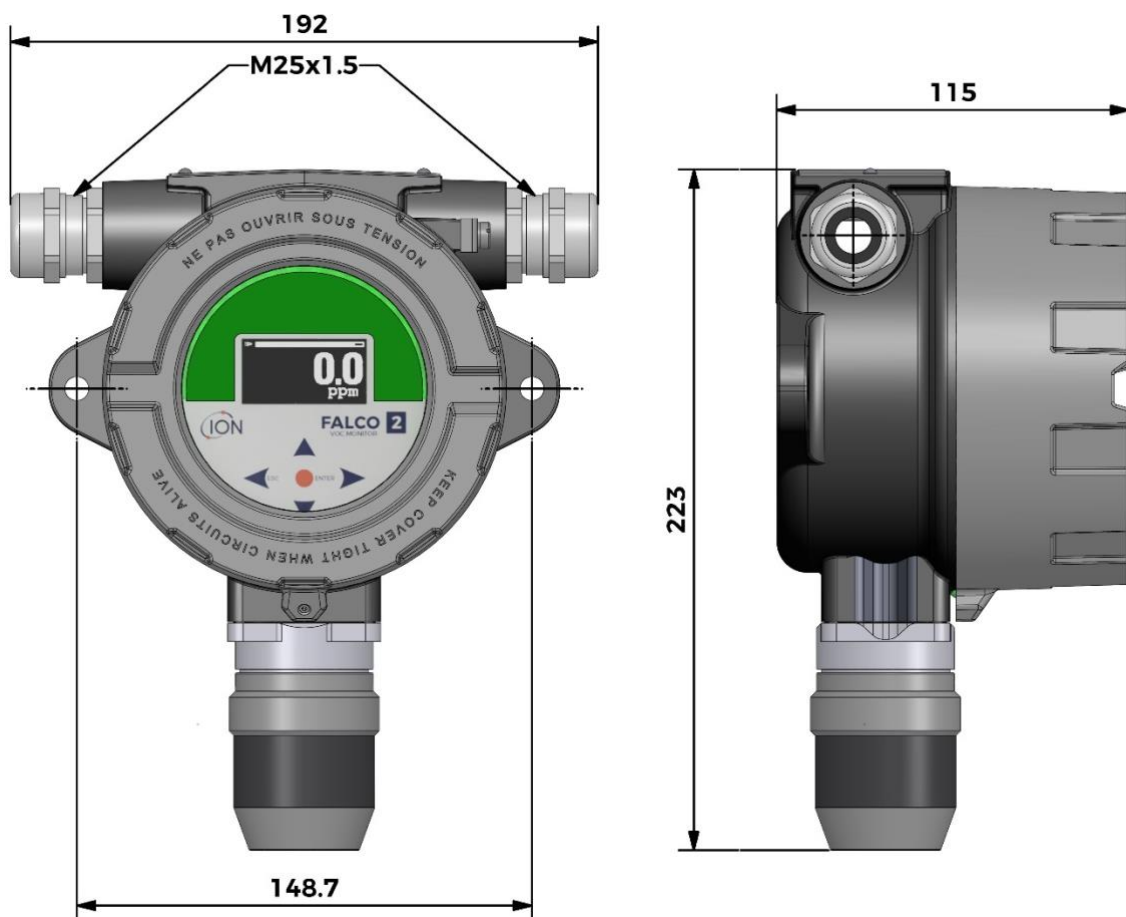

Figure 1 - Dimensional drawing of the FALCO 2 11.7, showing front and side views with key measurements and mounting details
1. To ensure secure installation, use two M8 screws to mount the FALCO 2 11.7 (including both the main unit and sensor housing) onto a solid and stable support. Refer to Figure 1 for the device's dimensions and mounting details.